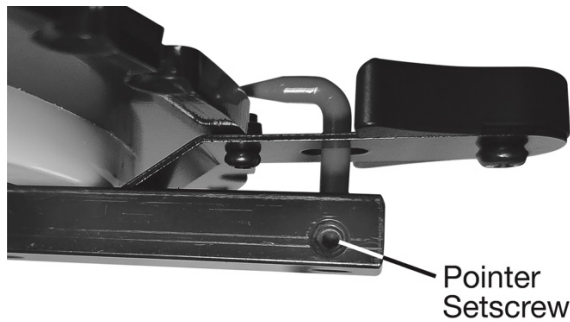

Figure 18B
4. After squaring, if the red pointer (C) is not pointing at 0°, loosen the pointer setscrew (see Figure 18B), rotate the pointer to 0°, and retighten the pointer setscrew.